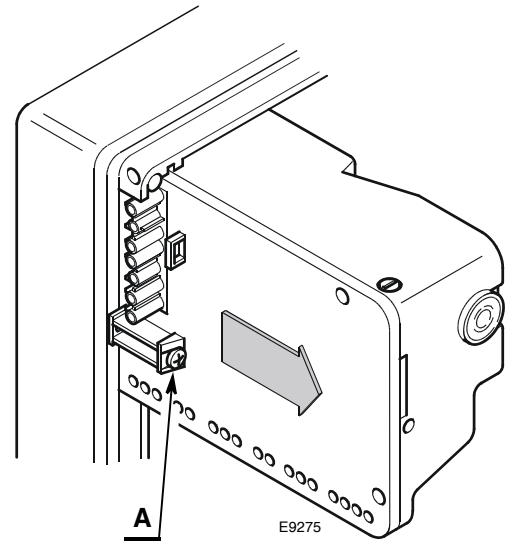

Fig. 15
- loosen the screw **A** (Fig. 15) and pull the control box in the direction of the arrow.